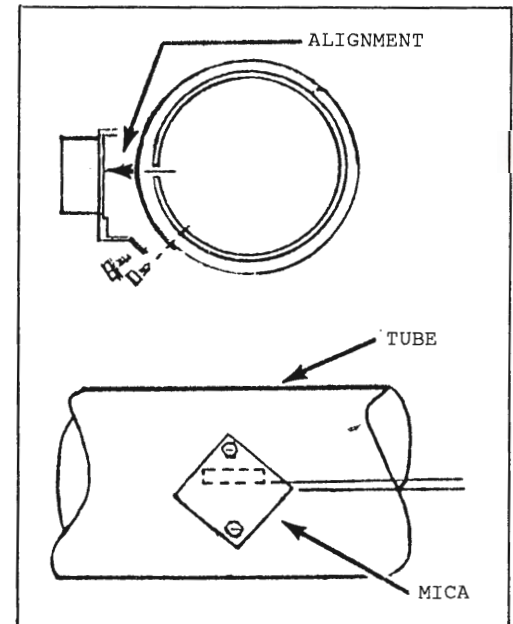

Figure 4-2
3. If the radiant sensor is removed or replaced while the heater is being serviced, care must be taken when re-installing the sensor. Any misalignment between the radiant sensor and the radiant tube "window" will cause the system to go into nuisance shutdown. To prevent this, install as shown in Figure 4-2.